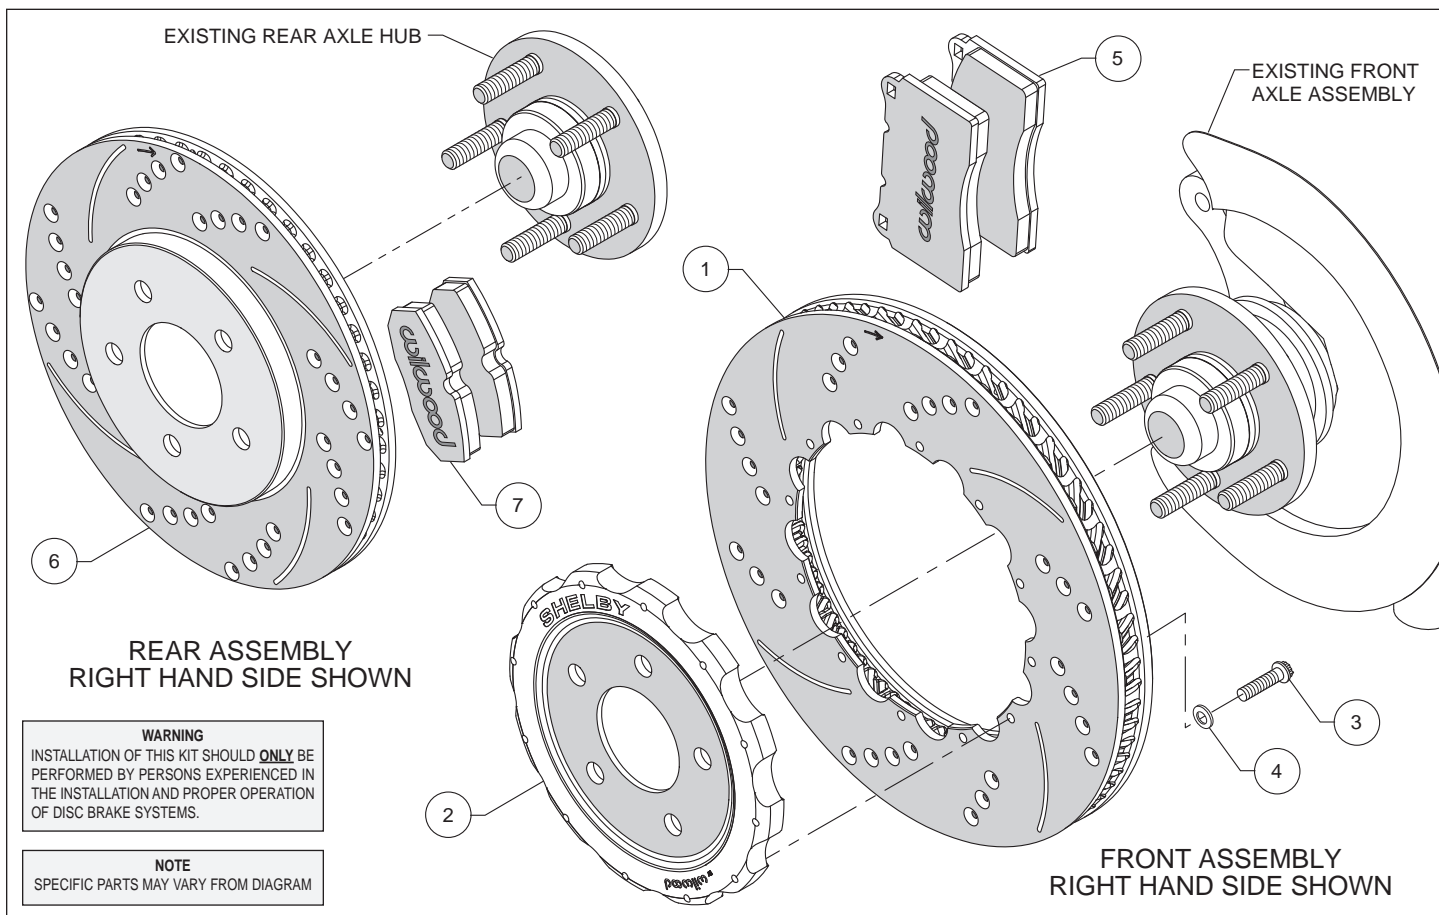
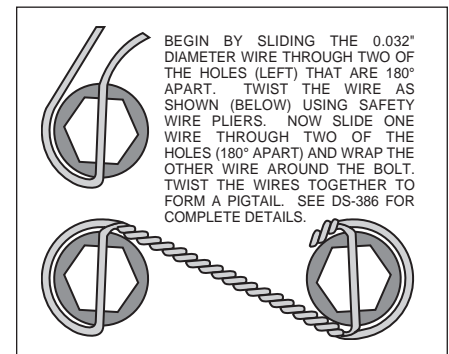

Figure 1. Typical Installation Configuration
Figure 2. Safety Wire Diagram
Assembly Instructions (numbers in parenthesis refer to the parts list and Figure 1 on the preceding page):
- Orient the rotor (1) and the hat (2) as shown in Figure 1. Attach rotor to hat using bolts (3) and washers (4). Using an alternating sequence, apply red *Loctite*[®] 271 to the threads, and torque to 155 **in-lbs**. For an added measure of security, the bolts may be safety wired using standard 0.032 inch diameter stainless steel safety wire as shown in Figure 2. Please refer to Wilwood's data sheet DS-386 (available at www.wilwood.com/Pdf/DataSheets/ds386.pdf) for complete safety wire installation instructions.